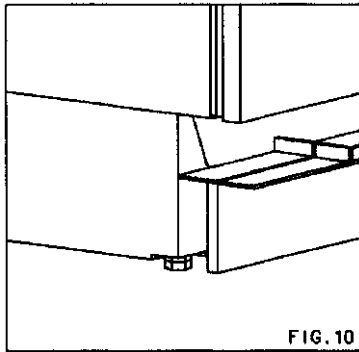

FIG. 10
- Rest the baseboard against the unit. Mark off and cut the part projecting beyond the grid console. Remove the baseboard before cutting it. If the cutting groove isn't level with the front edge of the baseboard, use the previous groove for cutting, as shown in **Figure 10**.